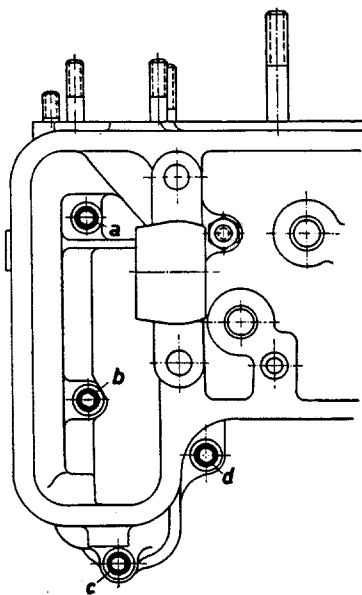

Fig. M 20/6
6. Loosen all cylinder head screws and turn them out. Do not forget the four hexagonal socket head screws M 8, opening 6 mm = 0.24" (a and b inside, c and d at the sprocket housing – Fig. M 20/6). Use special wrench 187 589 03 07. In the first few engines screw d is missing.